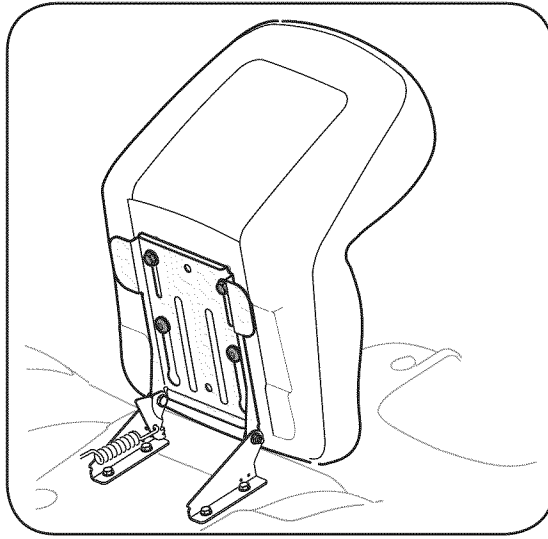
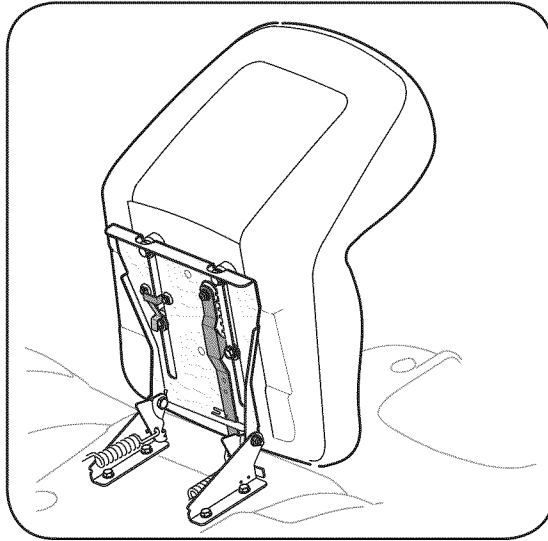
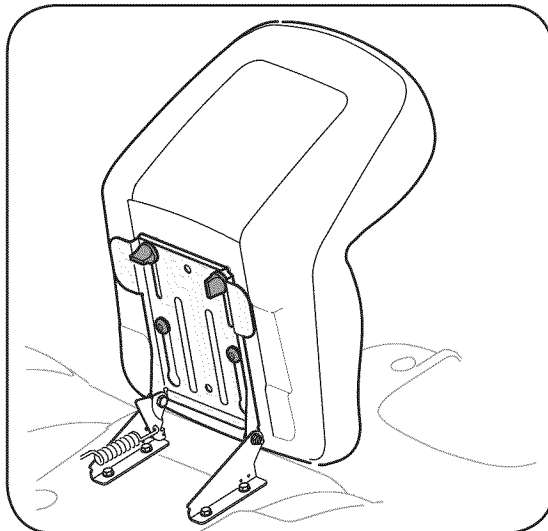

Figure 4
Figure 5
Figure 6
If the seat for your tractor did not come attached, refer to Figure 4, Figure 5, and Figure 6 to identify your tractor's seat style and follow the applicable instructions below to attach it.
1. Position the shoulder screws (found on the base of the seat) inside the slot openings in the seat pivot bracket. Figure 4.
3. Select desired position for the seat, and secure with the two hex screws removed earlier. See Figure 4.
NOTE: If your seat was shipped mounted backwards on the seat pivot bracket, pull out the tab found on the seat stop and hold it open while sliding the seat off the seat pivot bracket. See Figure 5.
2. Slide seat in until front seat spacer engages the seat stop. See Figure 5.
1. Position the shoulder screws (found on the base of the seat) inside the slot openings in the seat pivot bracket. Figure 6.
3. Select desired position for the seat, and secure with the two knobs removed earlier. See Figure 6.